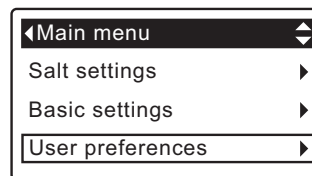

FIG. 47
2. Press the DOWN ▼ button to scroll through the menu options until **User preferences** is highlighted (See Figure 47).